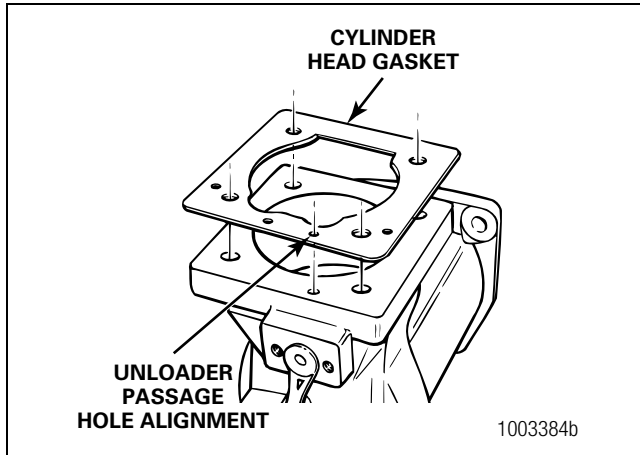

Figure 3.5
1. Align the hole in the cylinder head gasket with the unloader passage on the top of the crankcase. Figure 3.5.